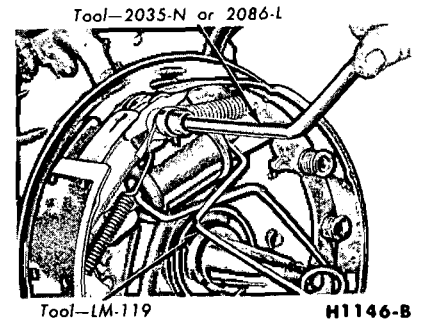

FIG. 14—Retracting Spring Removal —Typical
1. With the wheel and drum removed, install a clamp over the ends of the wheel cylinder as shown in Fig. 14.
2. Remove the brake retracting springs using Tool 2035-N or 2086-L (Fig. 14).
2. Place a clamp over the ends of the brake cylinder as shown in Fig. 14.